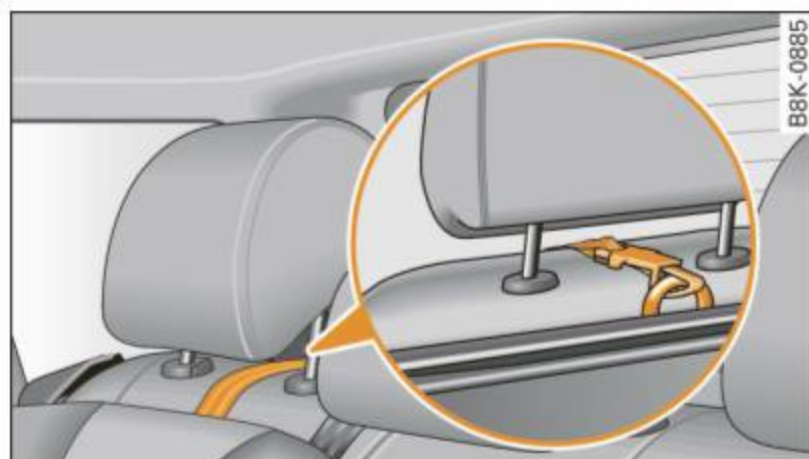

Fig. 204 Tether strap: proper routing and mounting
- Guide the upper tether strap **under** the rear head restraint and into the rear cargo area ⇒ fig. 204 (raise the head restraint if necessary).